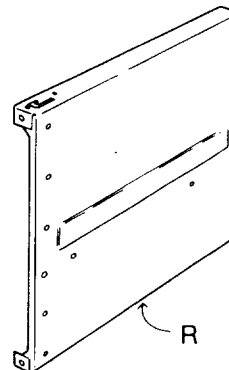

Fig. 30
1. Find the *right* and *left side panels*. Look carefully to find the "R" and "L" stamped in the metal near the center of the rear edges (opposite the J-shaped slots). These stamps are the easiest way to tell the *right panel* from the *left*. (Figure 30)